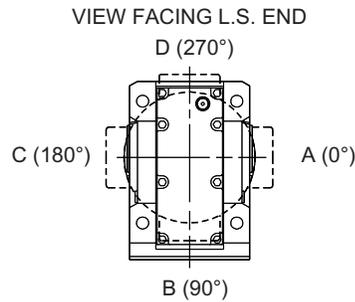

Figure 4
9. Determine appropriate position that motor conduit box must be in once motor is assembled to basic housing. Refer to Figure 4. Slide motor shaft into high speed motor adapter, aligning key of shaft with keyway in motor adapter bore.
11. Determine appropriate position that motor conduit box must be in once motor is assembled to basic housing. Refer to Figure 4. Slide motor shaft into high speed motor adapter, aligning key of shaft with keyway in motor adapter bore.
- Determine appropriate position that motor conduit box must be in once motor is assembled to basic housing. Refer to Figure 4. Slide motor shaft into high speed motor adapter, aligning key of shaft with keyway in motor adapter bore.